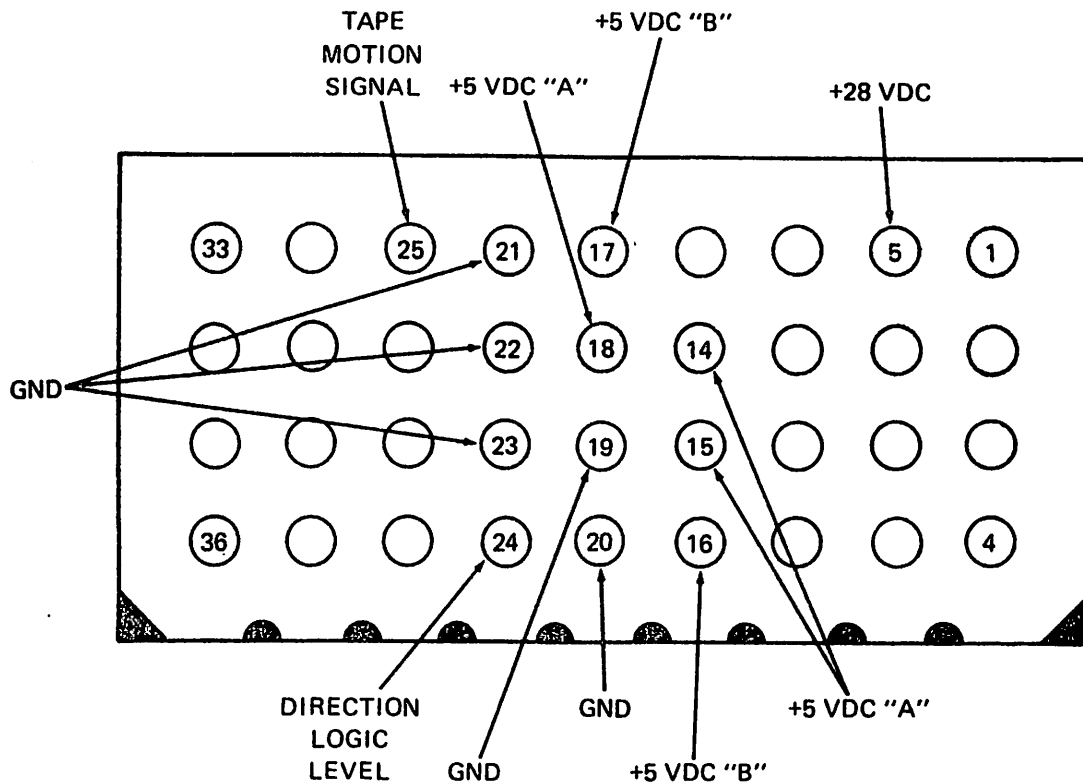

Figure 3. Remote Cable Connector (Control Unit Disconnected)
4. Make the following power measurements at the connector. (See Figure 3 for pin locations. The pins are not otherwise identified.)